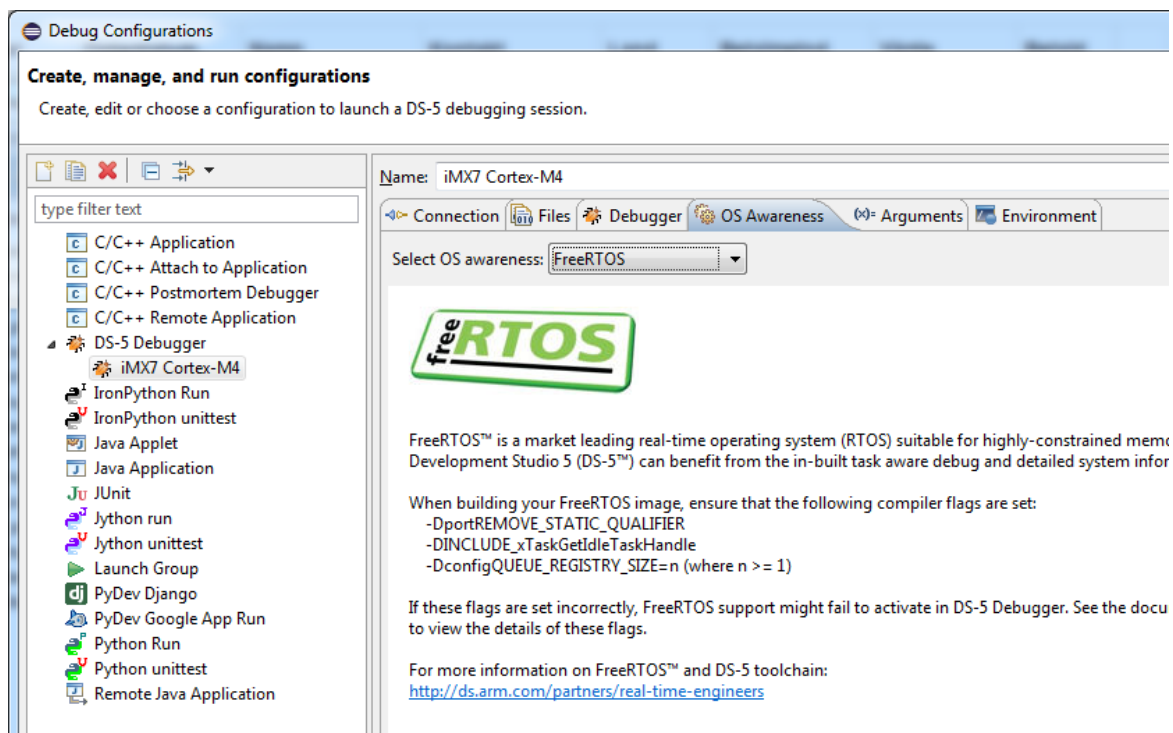

Figure 10 - OS Awareness
- Go to the “OS Awareness” tab and choose FreeRTOS in the list as shown in Figure 10.